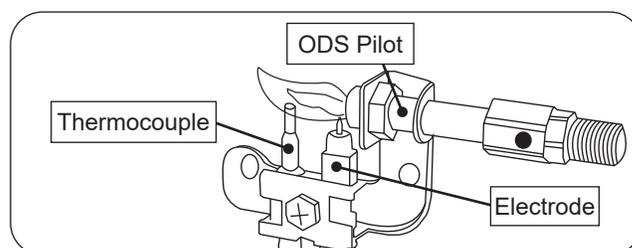

Fig. 25-2 ODS Pilot assembly detail
3. Locate the pilot assembly on the burner system (see Fig. 25-2).